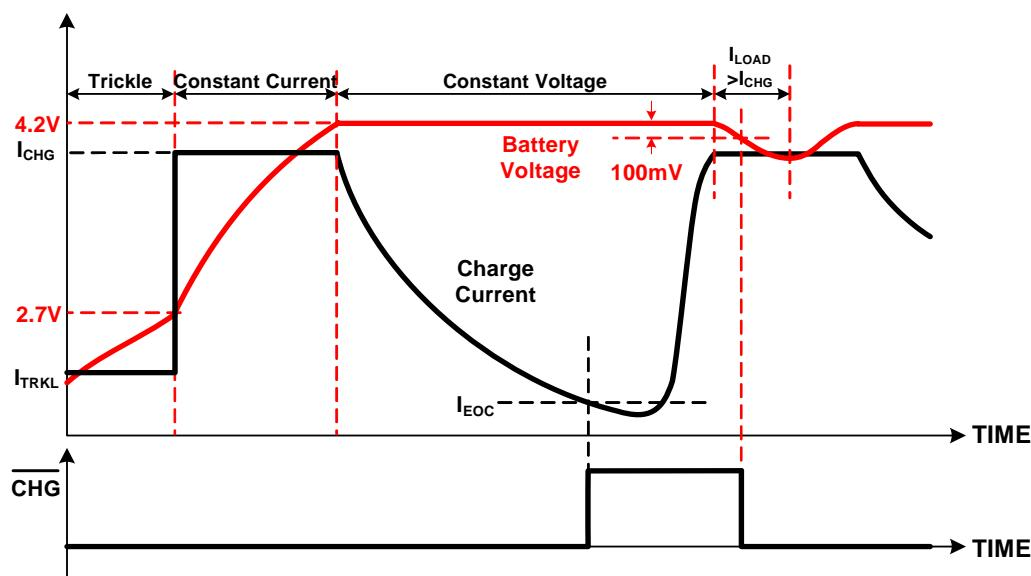

Figure 27. Charge Profile
The 34675 uses the standard charge profile with trickle, constant-current (CC), and constant-voltage (CV) charge modes, as shown in Figure 27. Both the CC and the CV charge modes are also called fast-charge mode. When the input voltage rises above an internal power-on-reset threshold, the PPR pin outputs a low voltage to indicate the power-supply presence. The charger starts with the trickle-charge mode until the battery voltage is above 2.7V. The CHG pin outputs logic low voltage at the beginning of the trickle-charge mode. If the battery voltage is unable to rise due to a battery failure, charging will remain in the trickle-charge mode. When the battery voltage reaches the 2.7V threshold, the 34675 softly changes to the CC mode. The soft transition minimizes the input-voltage drop and reduces the requirement of the input decoupling capacitance. When the battery voltage reaches 4.2V, the 34675 enters the CV mode and regulates the output voltage at 4.2V. The charge current decreases gradually in the CV mode. When the current drops to the EOC current threshold, the 34675 outputs logic high level at the CHG pin to indicate that the charging is completed.